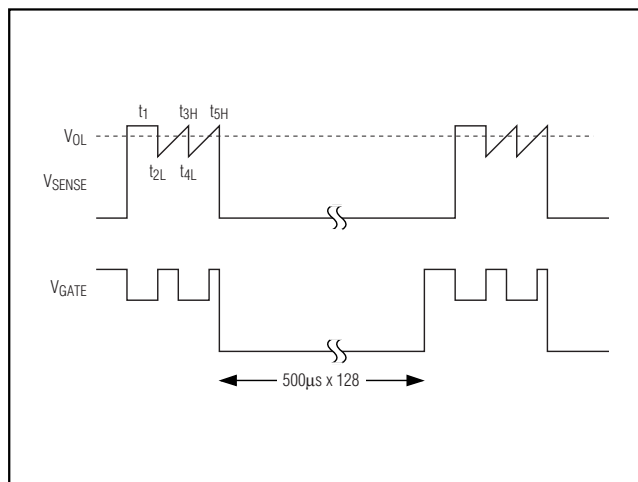

Figure 14. MAX5921A Overcurrent Fault Example
The MAX5921/MAX5939 feature an overcurrent fault integrator. When an overcurrent condition is detected, an internal digital counter is incremented. The clock period for the digital counter is $32\mu\text{s}$ for the $500\mu\text{s}$ maximum current-limit duration version and $128\mu\text{s}$ for 2ms maximum current-limit duration devices. An overcurrent of less than $32\mu\text{s}$ is interpreted as an overcurrent of $32\mu\text{s}$. When the counter reaches $500\mu\text{s}$ (the maximum current-limit duration) for the MAX5921/MAX5939A, an overcurrent fault is generated. If the overcurrent fault does not last $500\mu\text{s}$, then the counter begins decrementing at a rate 128 (maximum current-limit duty cycle) times slower than the counter was incrementing. Repeated overcurrent conditions generate a fault if the duty cycle of the overcurrent condition duty ratio is greater than the maximum current-limit duty cycle (see Figure 14).
- If an optocoupler is utilized as in Figure 14, determine the LED series resistor: